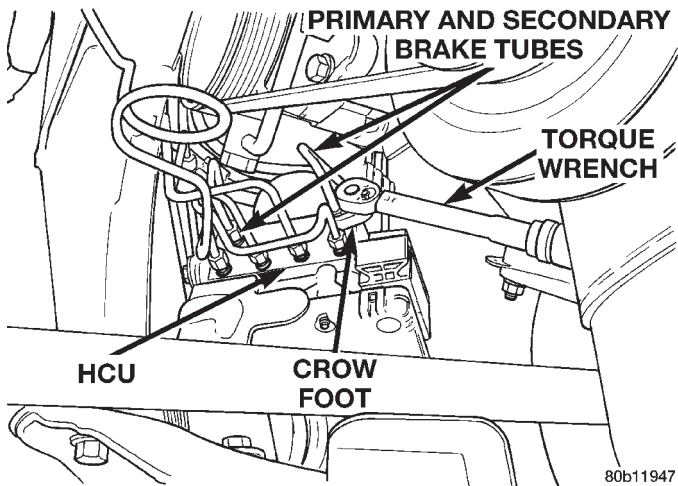
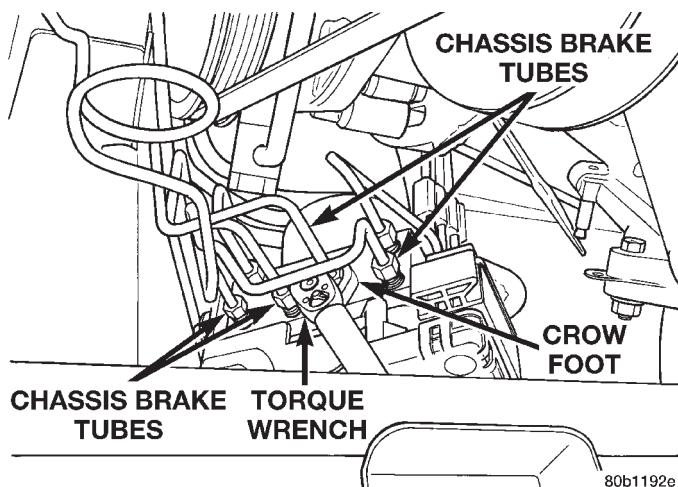

Fig. 35 Torquing Primary And Secondary Brake Tube Nut
Fig. 36 Torquing Chassis Brake Tube Nuts
(10) Using a crow foot (Fig. 35) and (Fig. 36) tighten all of the brake tube nuts to a torque of 17 N·m (145 in. lbs.).